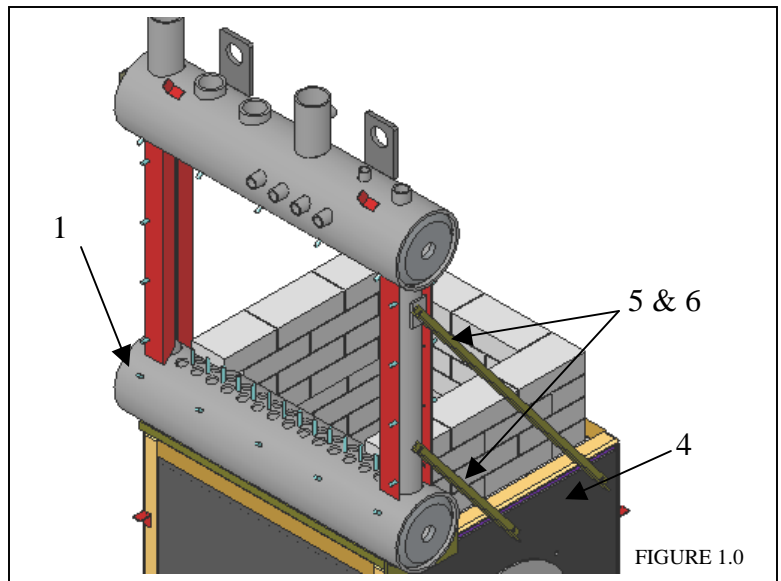

FIGURE 1.0
- 1.4 Install the two angle braces (Items #5 & 6) with one end connected to the burner base assembly (Item #4) and the other end connected to the Pressure Vessel assembly (Item #1). See Fig. 1.0.